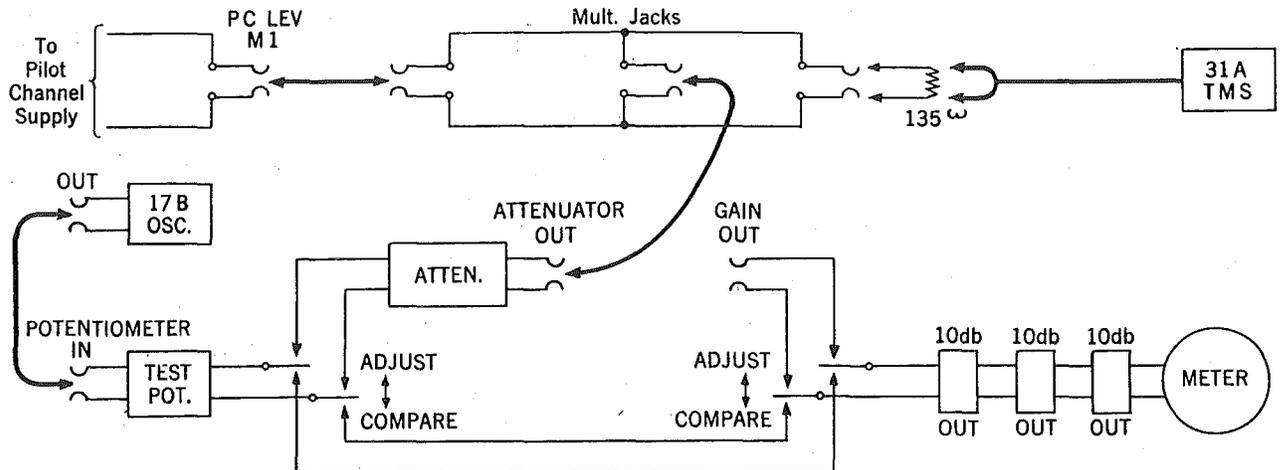

Fig. 13 - 17B Oscillator Frequency Calibration 56 Kc Pilot Measurement
3.53 Procedure - 56 Kc Pilot - 17B Oscillator Frequency Calibration. See Fig. 13: